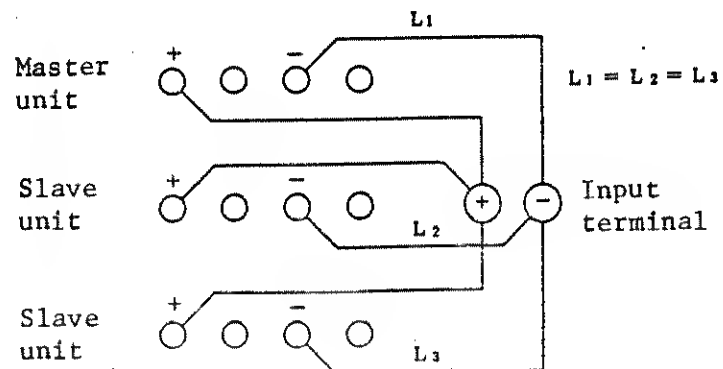

Figure 2-15-1
1. Turn off the power supply switch. Connect the terminals of each of the units as shown in Fig. 2-15-1. The length of the loading wire cables to each of the units should be approximately the same. Also, note if electrical potential of the negative input terminal of a unit is different from the others, the current generated by the unit will be imbalanced.